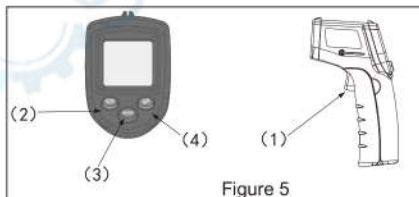

Figure 5
**2. Diagram description : Figure 5**